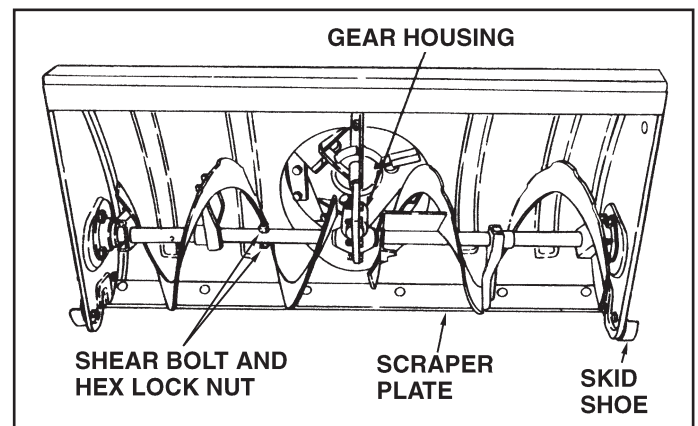

FIGURE 28
- If the augers will not turn, check to see if the shear bolts have sheared. See figure 28. Two replacement shear bolts and nylock nuts have been provided with the snow thrower. For future use order part number 710-0890A shear bolt and number 47810 nylock nut.